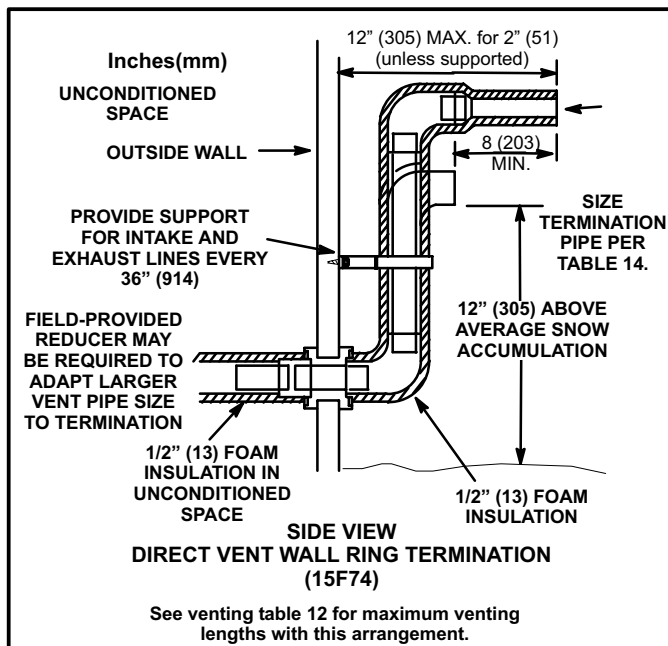
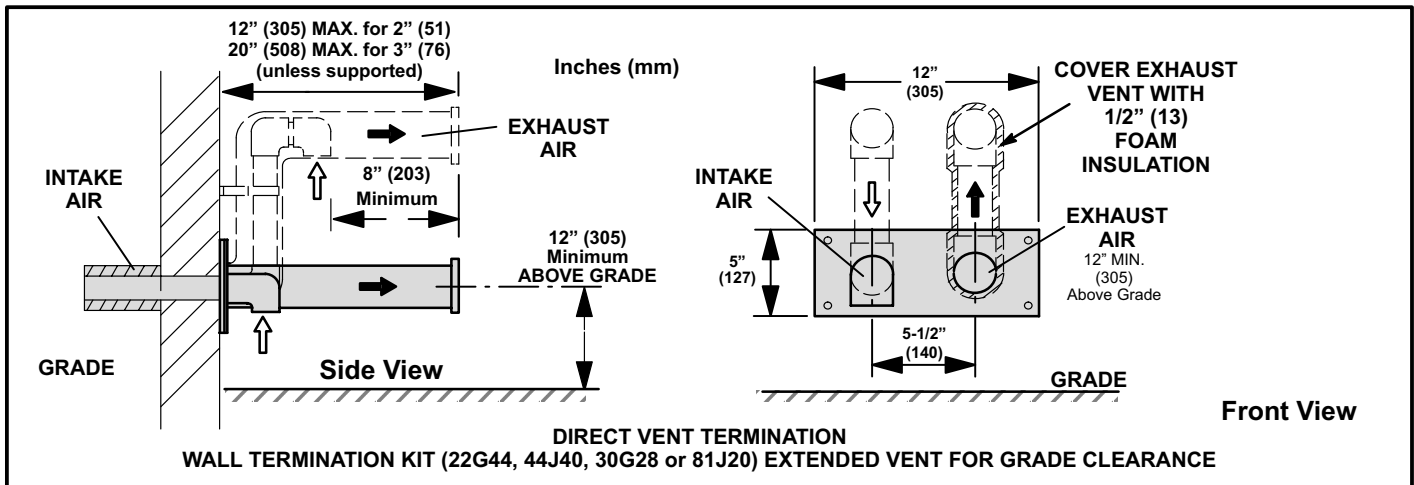

FIGURE 28
FIGURE 31
7. If intake and exhaust piping must be run up a side wall to position above snow accumulation or other obstructions, piping must be supported every 3 ft. (.9m) as shown in figure 18. Refer to figure 28 for proper piping method. In addition, WTK wall termination kit must be extended for use in this application. See figure 31. When exhaust and intake piping must be run up an outside wall, the exhaust piping must be terminated with pipe sized per table 14. The intake piping may be equipped with a 90° elbow turndown. Using turndown will add 5 feet (1.5m) to the equivalent length of the pipe.